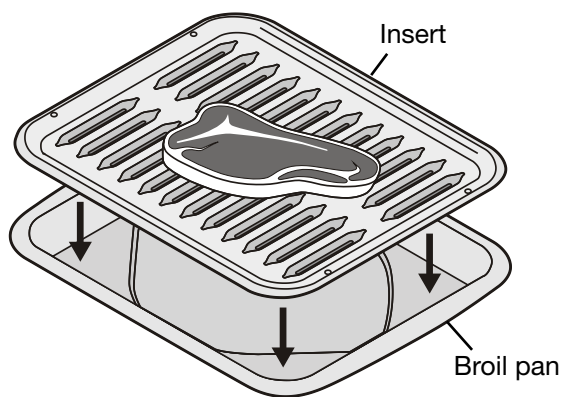

Fig. 3
- Use the recommended pans and oven rack positions for the type of meat being prepared -p.25 Figs. 3 & 4-.
The broil pan insert (if equipped) contains slots that allows grease from the meat to drain into the broil pan. Place prepared meat on broil pan insert and then place onto broiler pan as shown -Fig. 3-.